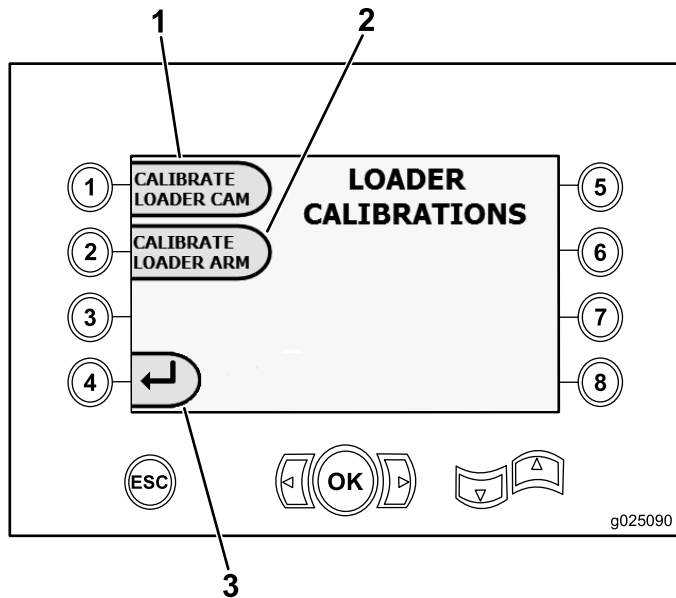

Figure 29
- Press button number 1 to calibrate the loader cam (Figure 29).
- Press button number 2 to calibrate the loader arm (Figure 29).